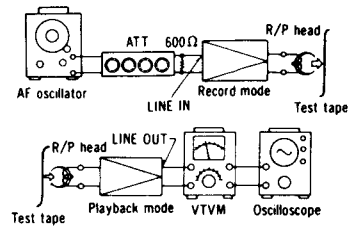
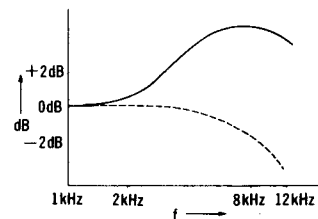
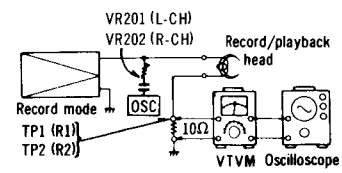
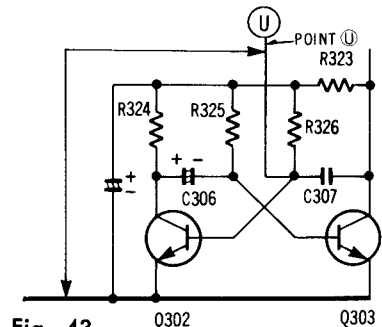

Fig. 38
Fig. 41
Fig. 42
Fig. 43
<p>⊕ Overall frequency response</p> <p>Condition:</p> <ul style="list-style-type: none"> * Record/playback mode * Normal tape mode * Fe-Cr tape mode * CrO₂ tape mode * Metal tape mode * Input level controls ... MAX * Output level control ... MAX * Standard input level MIC ... -72 ± 3.5 dB LINE IN ... -24 ± 3.5 dB <p>Equipment:</p> <ul style="list-style-type: none"> * VTVM * AF oscillator * ATT * Resistor (600Ω) * Test tape (reference blank tape) <ul style="list-style-type: none"> ... QZZCRA for Normal ... QZZCRX for CrO₂ ... QZZCRY for Fe-Cr ... QZZCRZ for Metal 	<p>Note:</p> <p>Before measuring and adjusting, make sure of the playback frequency response (For the method of measurement, please refer to the playback frequency response).</p> <ol style="list-style-type: none"> 1. Test equipment connection is shown in fig. 38. 2. Place the test tape (QZZCRA) in the cassette holder. 3. Set UNIT into record mode, and normal tape mode. 4. Supply 1 kHz signal from AF oscillator through ATT to LINE IN. 5. Adjust ATT so that input level is -20 dB below standard recording level (standard recording level = 0 VU). 6. At this time, LINE OUT level indicates 0.07 V. 7. Record each frequency 50 Hz, 70 Hz, 600 Hz, 1 kHz, 2 kHz, 8 kHz, 10 kHz, and 12 kHz (14 kHz for CrO₂, Fe-Cr and Metal). 8. Playback and express in dB the difference between playback output level of each frequency based on playback output level of 1 kHz. 9. Make sure that the measured value is within the range specified in the overall frequency response chart (shown in fig. 30). 10. Change test tape to Fe-Cr (QZZCRY), CrO₂ (QZZCRX) and Metal (QZZCRZ). 11. Set UNIT into each tape mode. 12. Measure as same as manner from step (3) to step (8). 13. Make sure that the measured value is within the range specified in the overall frequency response chart for Fe-Cr, CrO₂ and Metal tape shown in fig. 31. <p>Adjustment-using bias current</p> <ol style="list-style-type: none"> 1. When the frequency response between the middle and high frequency range becomes higher than the standard value, as shown by the solid line in fig. 41 increase, refer to bias current adjustment. 2. When it becomes lower, as shown by dotted line, refer to bias current adjustment. <p>Bias current adjustment</p> <ol style="list-style-type: none"> 1. Test equipment connection is shown in fig. 42. 2. Set UNIT into record mode, and normal tape mode. 3. Read voltage on VTVM and calculate bias current by following formula: $\text{Bias current (A)} = \frac{\text{Value read on VTVM (V)}}{10 (\Omega)}$ <div style="border: 1px solid black; padding: 5px; margin: 10px 0;"> <p>Standard value: around 350 μA (Normal tape mode)</p> </div> <ol style="list-style-type: none"> 4. If measured value is not within standard, adjust VR201 (L-CH) and VR202 (R-CH). 5. Set the tape selector to each position. 6. Make sure that the measured value is within standard. <div style="border: 1px solid black; padding: 5px; margin: 10px 0;"> <p>Standard value: around 370 μA (Fe-Cr tape mode) around 440 μA (CrO₂ tape mode) around 700 μA (Metal tape mode)</p> </div>
<p>① Overall gain</p> <p>Condition:</p> <ul style="list-style-type: none"> * Record/playback mode * Normal tape mode * Input level controls MAX * Output level control ... MAX * Standard input level <ul style="list-style-type: none"> MIC -72 ± 3.5 dB LINE IN ... -24 ± 3.5 dB <p>Equipment:</p> <ul style="list-style-type: none"> * VTVM * AF oscillator * ATT * Oscilloscope * Resistor (600Ω) * Test tape (reference blank tape) <ul style="list-style-type: none"> ... QZZCRA for Normal 	<ol style="list-style-type: none"> 1. Test equipment connection is shown in fig. 38. 2. Place UNIT into record mode, and normal tape mode. 3. Supply 1 kHz signal (-24 dB) from AF oscillator, through ATT to LINE IN. 4. Adjust ATT until monitor level at LINE OUT becomes 0.7V. 5. Using test tape, make recording. 6. Playback recorded tape, and make sure the value at LINE OUT on VTVM becomes 0.7V. 7. If measured value is not 0.7V, adjust VR5 (L-CH), VR6 (R-CH) (See fig. 23). 8. Repeat from step 2.
<p>② Fluorescent meter</p> <p>Condition:</p> <ul style="list-style-type: none"> * Record mode * Input level controls MAX * Output level control ... MAX <p>Equipment:</p> <ul style="list-style-type: none"> * VTVM * AF oscillator * ATT * Resistor (600Ω) 	<ol style="list-style-type: none"> 1. Test equipment connection is shown in fig. 38. 2. As shown in fig. 43, connecting the base of Q302 (Point ①, see fig. 23 on page 6) and ground stops the oscillation of the astable multivibrator comprising Q302 and Q303. 3. Supply 1 kHz signal (-24 dB) to the LINE IN jack, then press the record button. 4. Adjust the ATT so that the output level at LINE OUT jack becomes 0.7V (The input level at this condition is termed the standard input level). 5. Adjustment at "-20 dB". <ol style="list-style-type: none"> A. Adjust the ATT so that input level is -20 dB below standard recording level. B. Adjust VR301 so that the -20 dB segment lights up in the -20 dB \pm 0.8 dB range (L-CH ONLY) (See fig. 44). 6. Adjustment at "0 dB". <ol style="list-style-type: none"> A. Adjust the ATT so that the output level at LINE OUT jack becomes 0.7V. (The input level at this condition is termed the standard input level.) B. Adjust VR302 so that the $+1$ dB segment lights up in the 0 ± 0.2 dB range of the standard input level (See fig. 45). 7. Repeat twice between steps 5 and 6 above. 8. Adjust ATT and check that all segments light up when an input signal level is increased to 10 dB higher than the standard input level (See fig. 46).